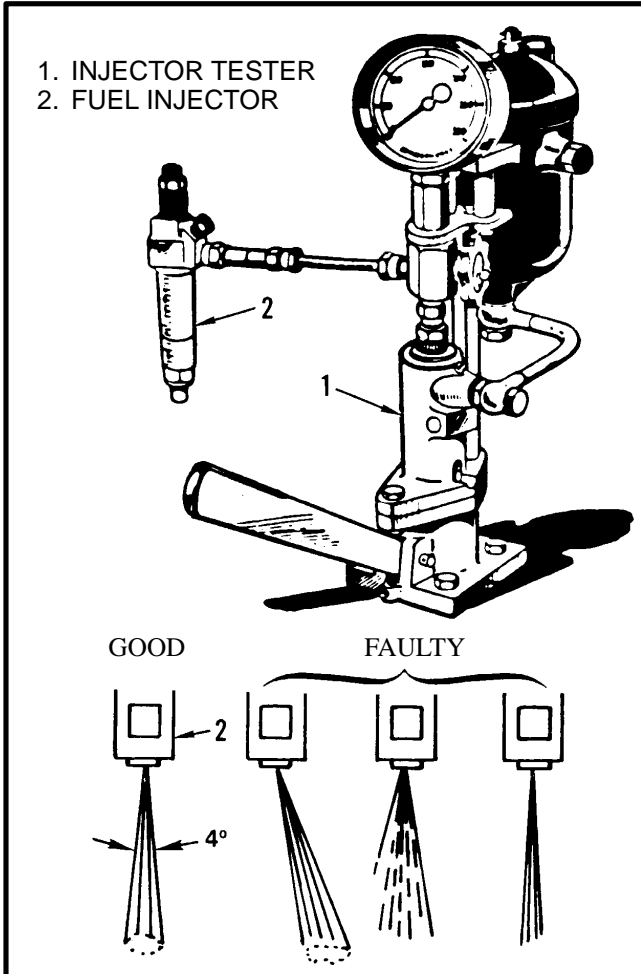

FIGURE 29. DEVICE TO CHECK THE FUEL INJECTORS
CHECK THE FUEL INJECTORS (See FIGURE 29. and FIGURE 30.)
3. Use an injector tester to check the pressure at which the nozzle operates. (See FIGURE 29.)
5. Check the spray pattern of the nozzle. (See FIGURE 29.) If the spray pattern is not correct, the needle valve is not seated correctly against the valve seat. Remove carbon deposits or replace parts as required.